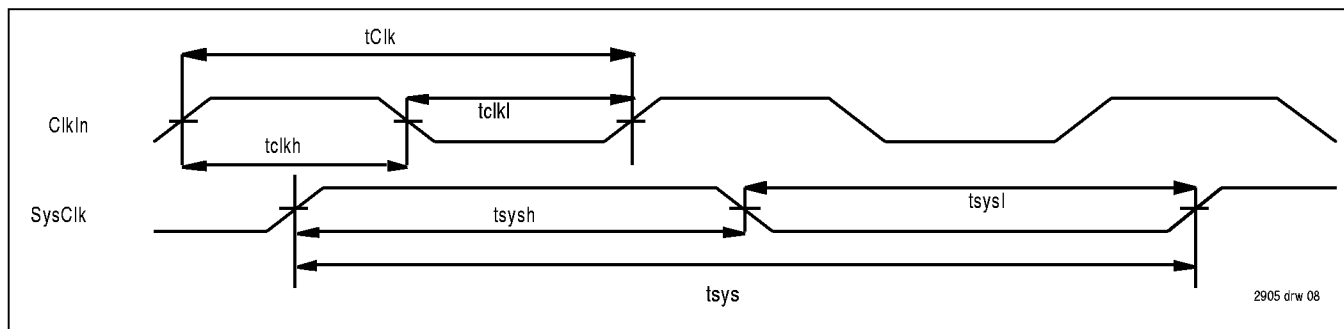
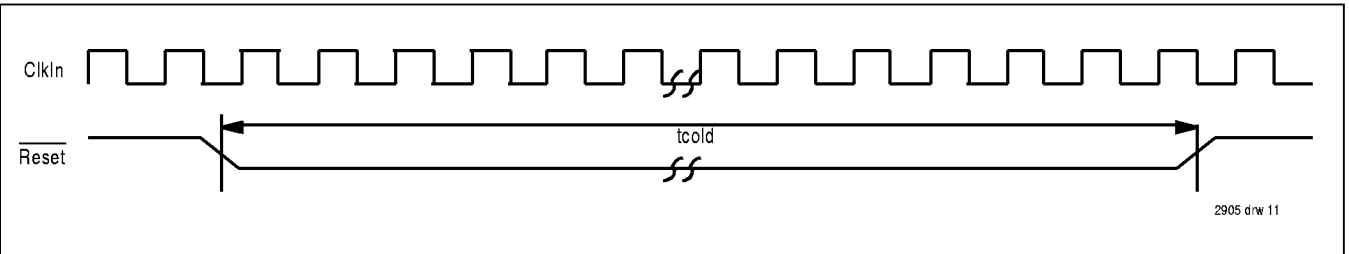

Figure 2 Clocking Sequence
Figure 5 Warm Reset Sequence (Internal Pull-Ups Used)
- For timing diagrams of the ClkIn, Reset, and SysClk signals, see Figure 2 through Figure 5 on the following page.